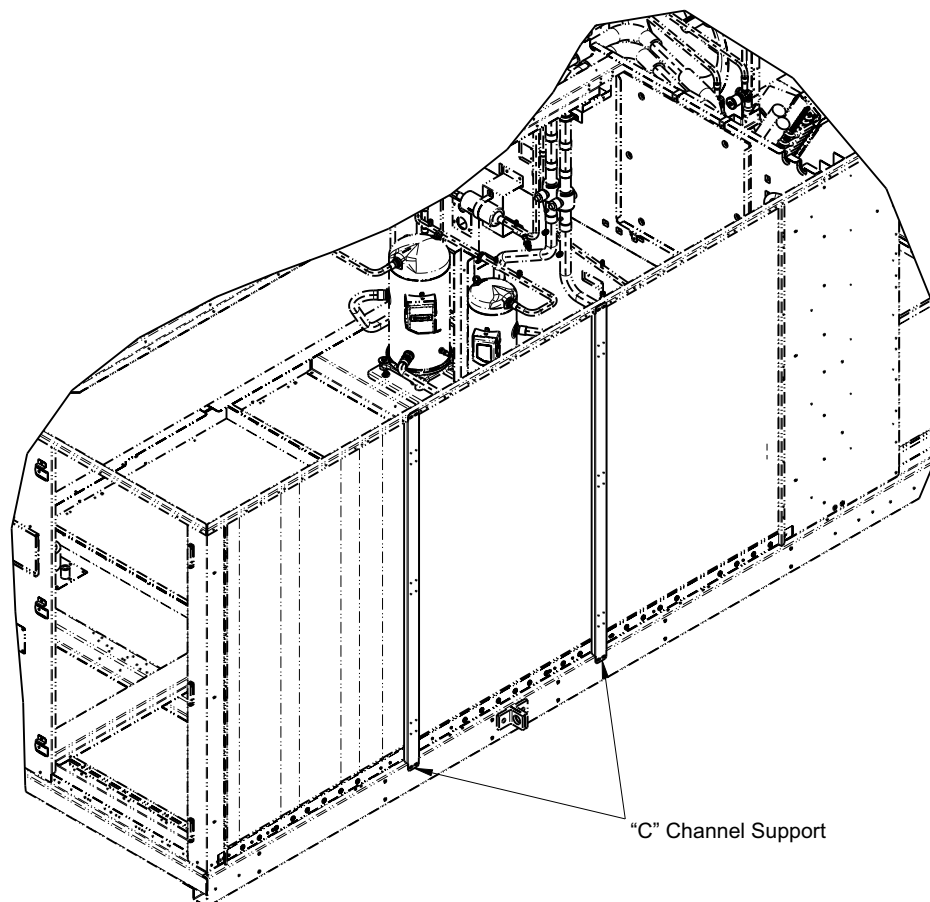

Fig. 2 — "C" Channel Support
6. Install "C" Channel Support on condensing section using fasteners included with the kit. See Fig. 2. ("C" Channel support is factory-installed on size 60).